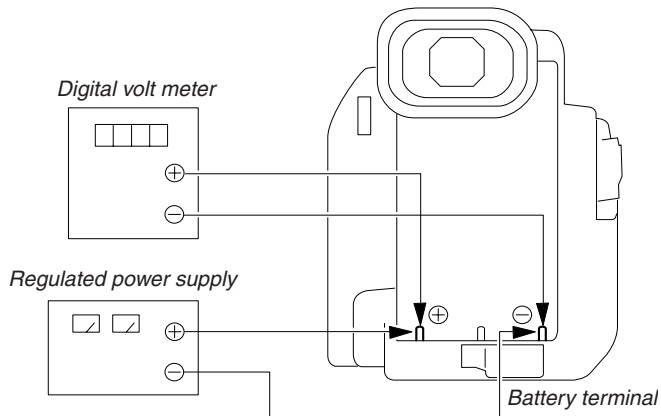

Fig.5-1-6.
- 1) Connect the regulated power supply and the digital voltmeter to the battery terminal as shown in Fig. 5-1-6.